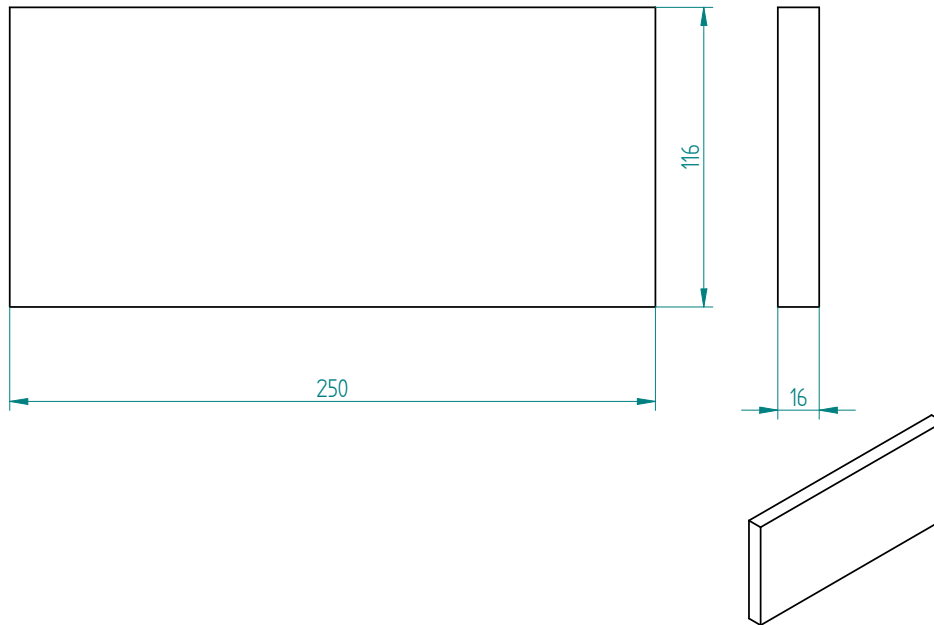

Figure 3.6: Shaped part : **face-2-outsourcing** for **perpendicularator** tool
1. order the part in a joinery see figure 3.6, page 86 for dimensions ;